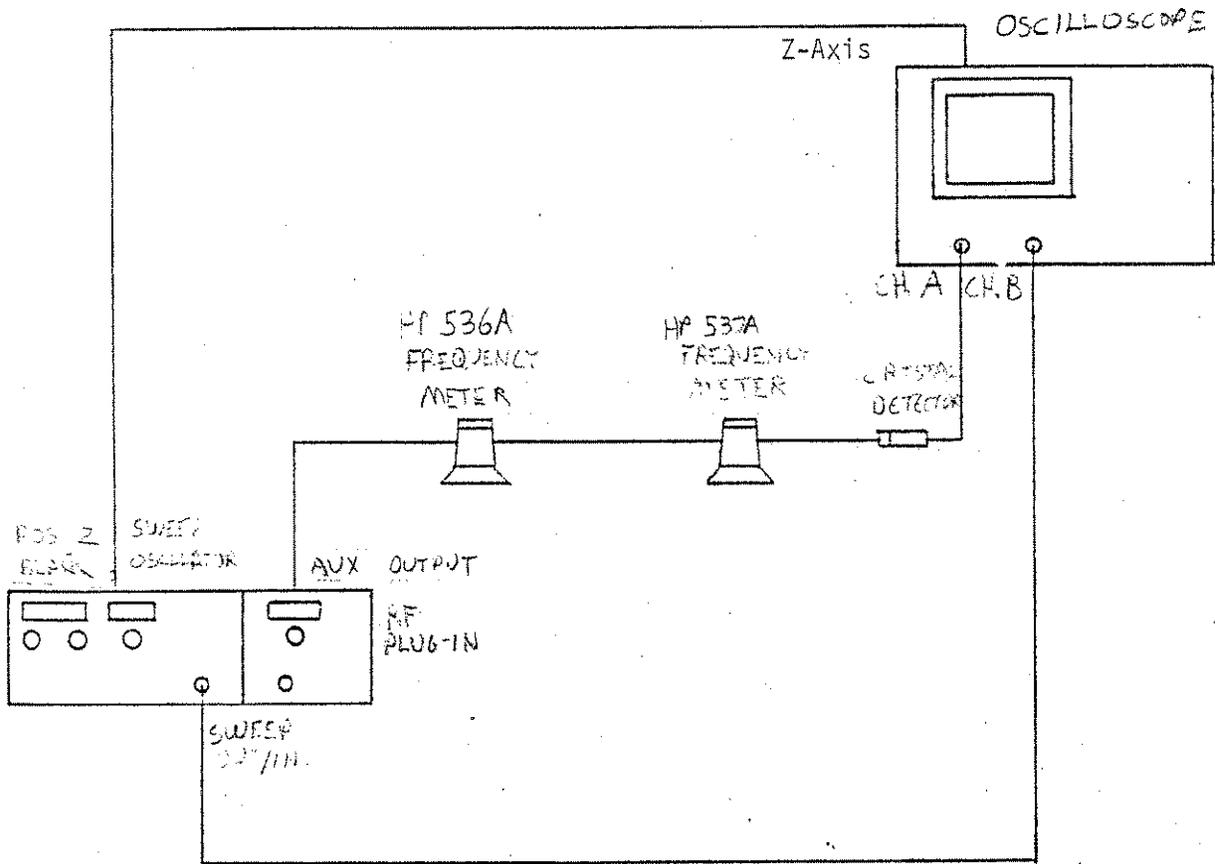

Figure 5-13. YD Retrace Compensation Test Setup
1. Connect the equipment as shown in Figure 5-13 with the oscilloscope connected through the detector and Frequency Meters to the 83592A rear panel AUX OUTPUT. On the 8350A, press [INSTR PRESET RF BLANK ON]. Allow the equipment to warm up for 1 hour.